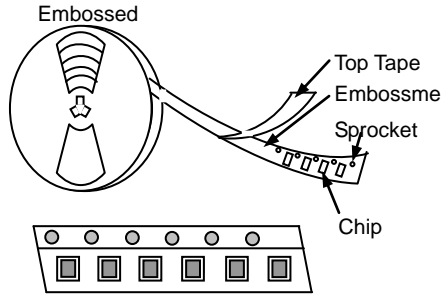

Fig. 6.1-1
- i. Tape carrier packaging are specified in attached figure **Fig. 6.1-1~4**